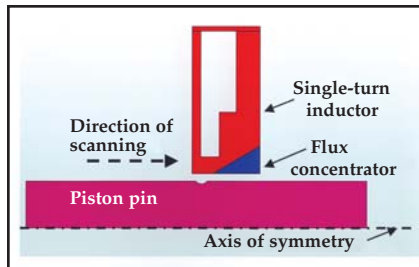

Fig. 5 — An induction scan hardening system with single-turn coil and magnetic flux concentrator.
**Sharp corners:** Avoid sharp corners, regardless of the type of flux concentrator, because of their tendency to saturate and/or overheat due to electromagnetic end effects (Figures 5 and 6). The initiation of fractures can almost always be minimized or eliminated by a well-thought-out coil design (Fig. 7). Computer modeling is essential to determine an optimal coil design.
Fig. 6 — Magnetic field distribution in the scan hardening system sketched in Fig. 5. The sharp corner of the flux concentrator experiences the maximum flux density. This area is a prime candidate for saturation. In addition, it will be heated by thermal radiation and convection from the surface of the hot workpiece.